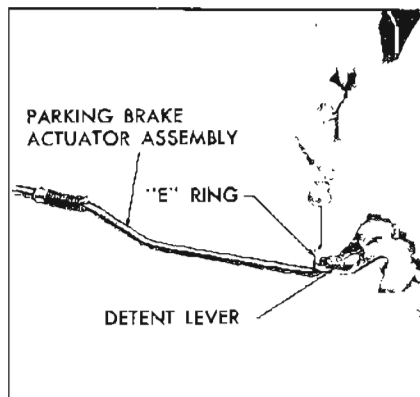

Figure 5-527
14. If necessary, remove the detent lever retaining "E" ring and detent lever. See Figure 5-527.